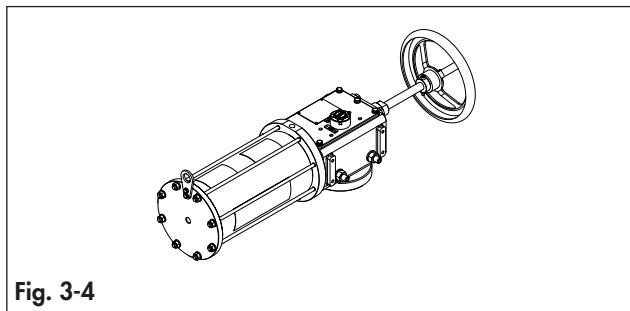

Fig. 3-4
- In case of a jackscrew the actuator and the valve are operated rotating a handwheel. (Fig. 3-4)
- In case of a declutchable jackscrew the actuator and the valve are operated rotating a handwheel. (Fig. 3-4)